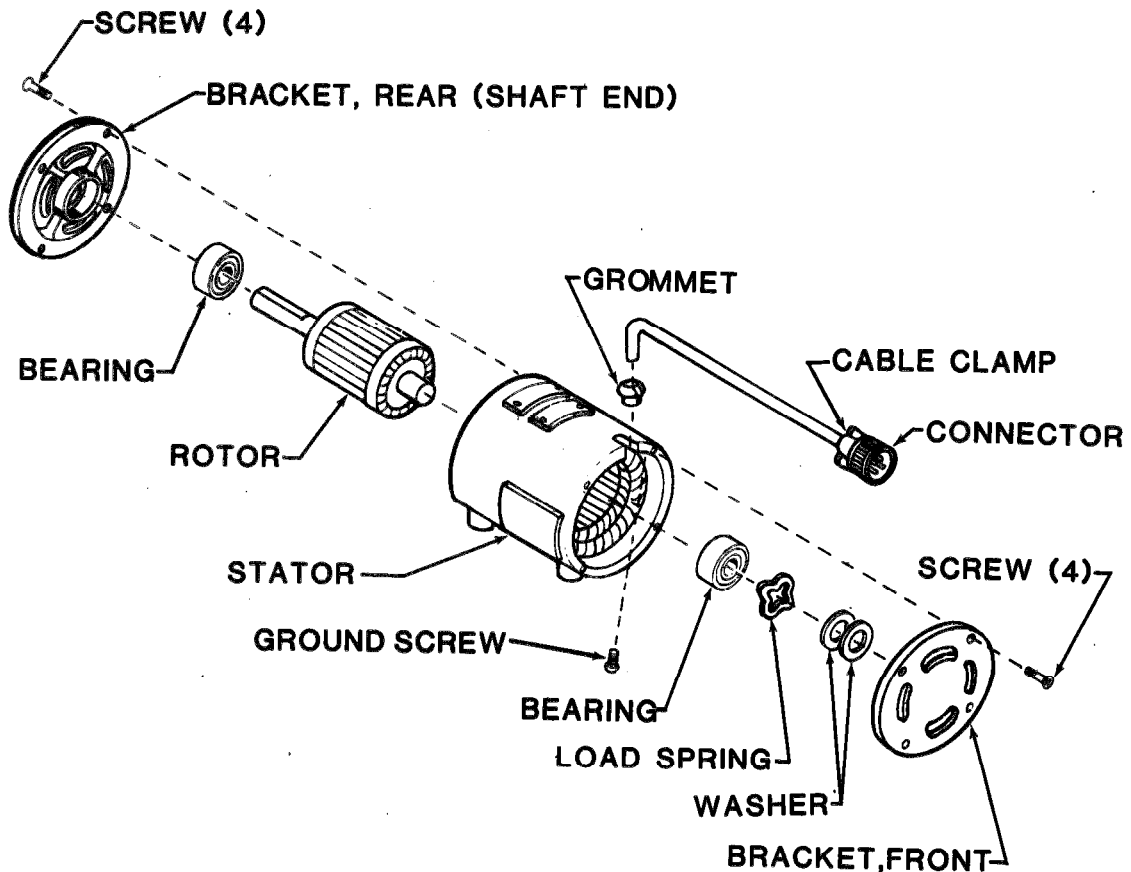

Figure 5-3. Motor Assembly, Welco Model M-4720-50
a. Motor Assembly, Welco Industries Inc., Model M4720-50. (See fig. 5-3.)